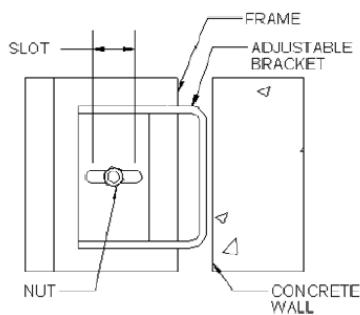

Figure 5
- Install the bottom anchor bolts, and then the lateral anchor bolts (see Figure 7). All Face Mounted Channel Gates incorporate bottom and lateral mounting brackets. For smaller sizes (typically same or under 1500mm/60"), the channel gate includes lateral flexible brackets (as seen in Figure 8) that require no field adjustment. For bigger sizes (typically over 1500mm/60"), the channel gate includes "Field Adjustment Brackets". In order to adjust the bracket, the following steps shall be followed (see Figure 5):